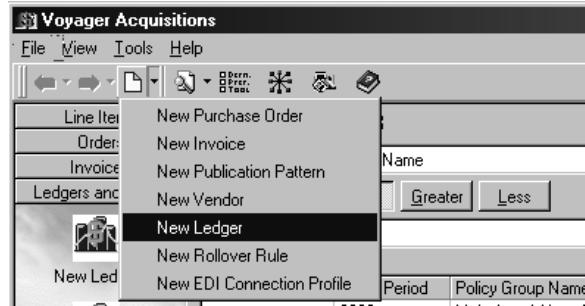

Figure 5-15. New Item button selected on the toolbar - list displayed
- You can also click the down arrow beside the **New Item** button on the toolbar and then select **New Ledger** from the list (see Figure 5-15).